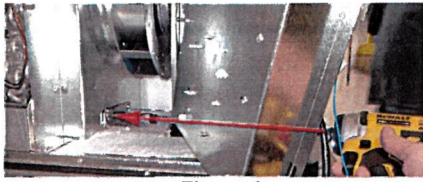

Figure 1
2. Insert your extension driver with T20 bit through the outlet grill. Unscrew the (2) bottom and (2) top fan bracket screws about 1/4". (Figure 1)